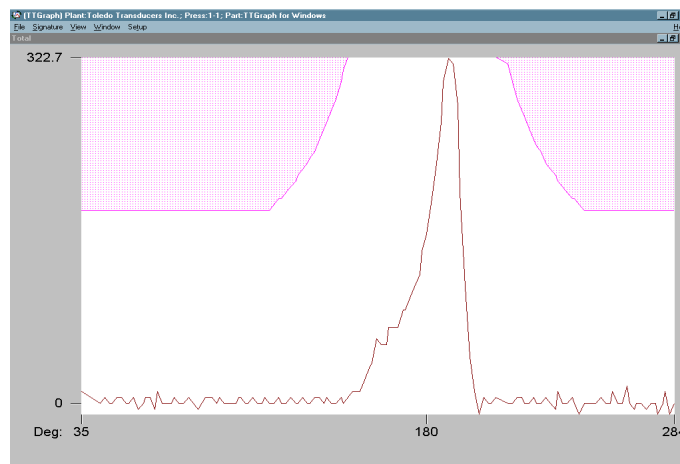

Figure 18: Scale Uniformly by Highest Peak.
2. This scaling will allow you to see the signatures in maximum scale by viewing the highest peak of all corners. (See Fig. 18).